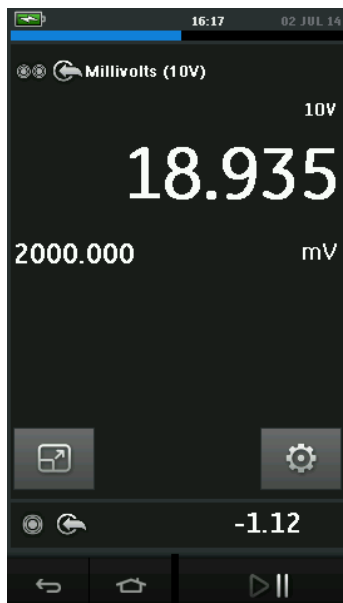

Figure 2-19 Calibration Window - Expanded View
- *Figure 2-19 displays an expanded view of the selected channel and minimizes the remaining channels.*